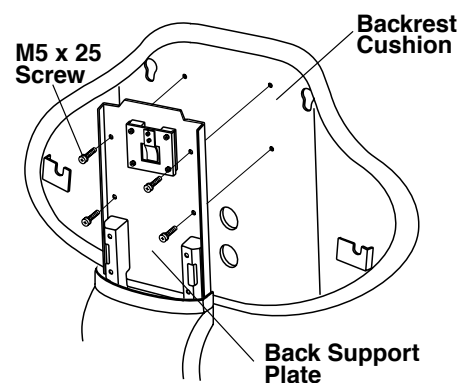

Fig.6-21 Fixing Backrest Cushion
- B. Fix the backrest cushion to the back support plate by 4 x M5 screws. (Fig.6-21)